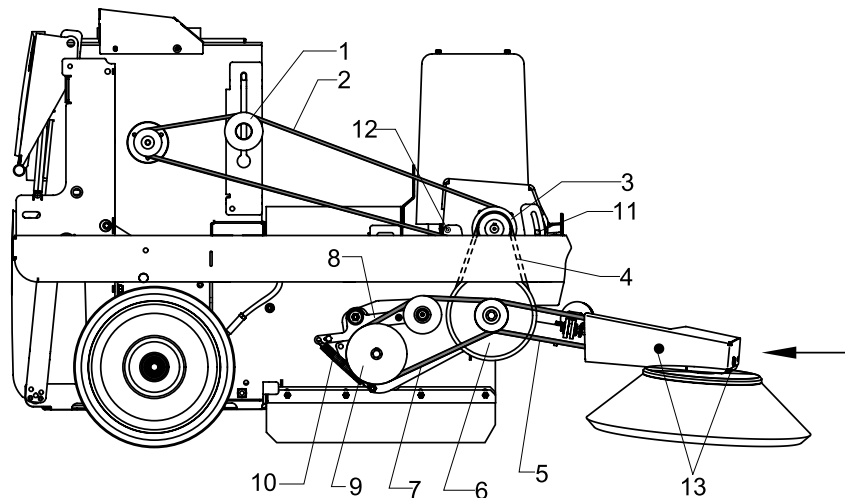

Fig. 28 V-belt drive 900 E
- Detent tensioning spring (Fig. 28/10) by left hand while taking the V-belt off the tensioning roller with right hand
- Remove V-belt (Fig. 28/7)
- Loosen screws (Fig. 28/13) at the cover plate and remove
- Push side brushes from the front towards the machine to detent V-belt (Fig. 28/5)
- Remove V-belt (Fig. 28/5)
- Loosen tensioning roller (Fig. 28/1)
- Loosen hexagonal nut (Fig. 28/11) and hexagon socket screw (Fig. 28/12) and detent V-belt (Fig. 28/4)
- Remove V-belt (Fig. 28/4) from belt pulley (Fig. 28/3)
- Remove V-belt (Fig. 28/2)
At first, adjust tension of V-belt (Fig. 28/4) then tension of V-belt (Fig. 28/2).